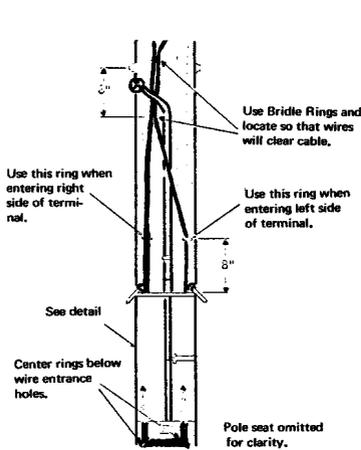

FIGURE 9. Pole Wiring Facilities
- 6.03 Provide wiring facilities on poles in accordance with Figures 9 and 10.